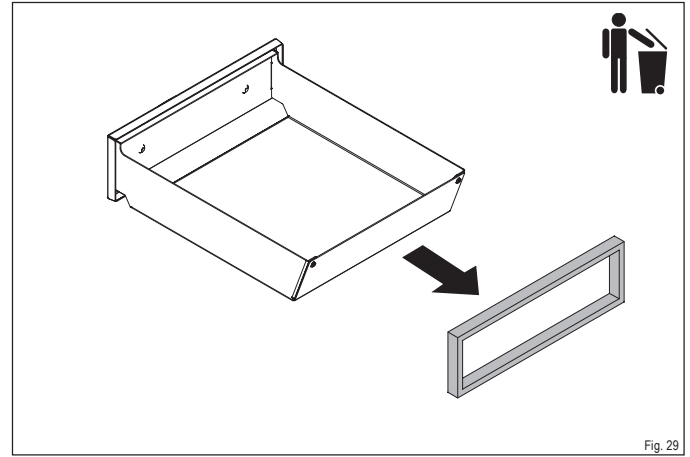

Fig. 29
- ▶ Pull the old seal out of the rail and dispose of it in the waste (Fig. 29).